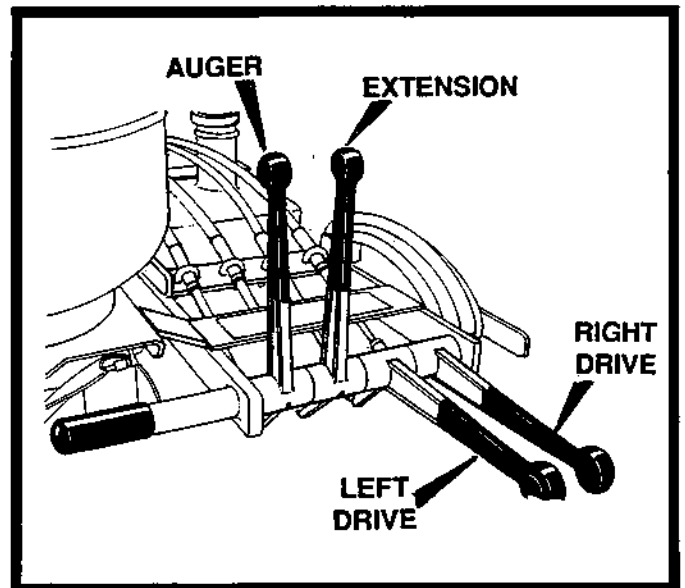

FIGURE 5
- From the right hand side the operator will have control of steering right and left, also the use of the right auger and right screed extension. See figure 5.
1. Turn main valve on the propane tank counter-clockwise to "on" position as shown in figure 5.